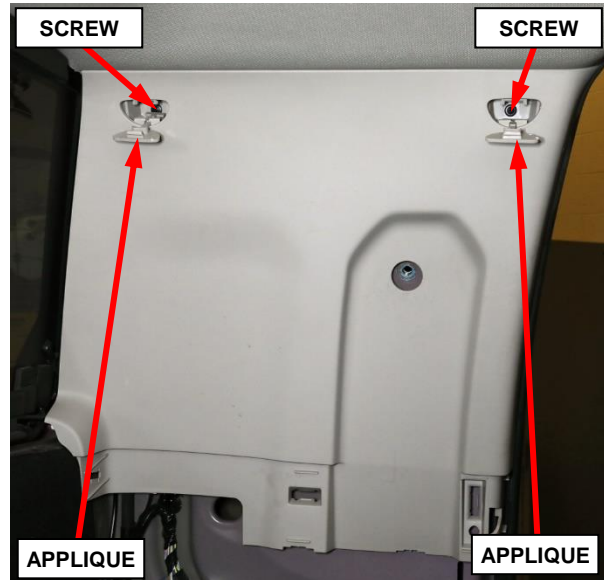

Figure 74 – C-Pillar Upper Trim Panel Fasteners
14. Using a trim stick or equivalent, release the B-pillar airbag applique then remove the screw that secures the upper trim panel (Figure 74).
57. Install and tighten the screws that secure the C-pillar upper trim panel then install the airbag applique covers (Figure 74).